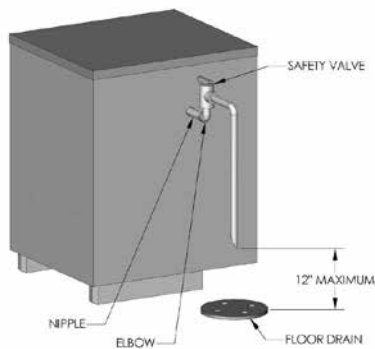

Figure 6.1
- Pipe the boiler safety valve provided into the 3/4" tapping on the left side of the boiler as shown in Figure 6.1. Be sure that the relief valve is sized in accordance with local code requirements. In addition, be sure that the safety valve is designed and stamped in accordance with the ASME Boiler and Pressure Vessel Code, Section IV.